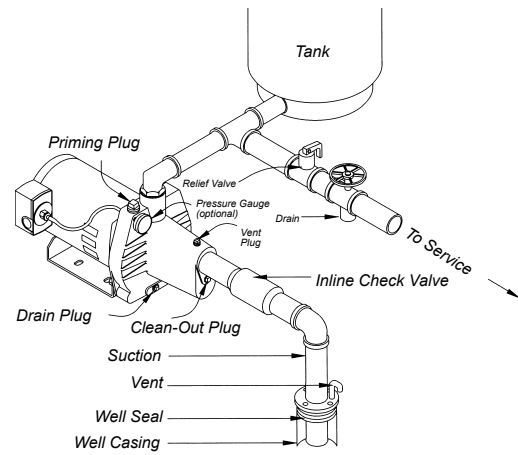

FIG. 2B SHALLOW WELL (WITH INLINE CHECK VALVE)
- b) **Suction Pipe:** It is recommended that only new, clean 1-1/4 inch pipe or hose be used. If the pump is installed any appreciable distance away from the source of water, the suction pipe should be increased to 1-1/2 inches. Horizontal lengths of pipe must gradually slope upwards from the source of water to the pump to avoid air pockets in the line. Thread compound should be used on all pipe joints and connections should be thoroughly tightened. A foot valve must be installed and its operation should be checked since a leak will prevent proper operation of the system. Make sure the foot valve is located so that it will be submerged at all times. If a sandpoint or driven well is used, install a check valve next to the pump suction instead of the foot valve (Fig. 2b). All installations must have a foot valve or a check valve in the suction pipe.